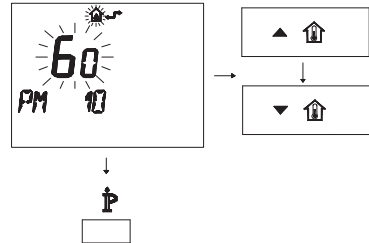

Fig. 7.43
- To modify the programmed SET, act on buttons **▲** and **HOUSE** or **▼** and **HOUSE** and wait for the number programmed to flash (Fig. 7.43).